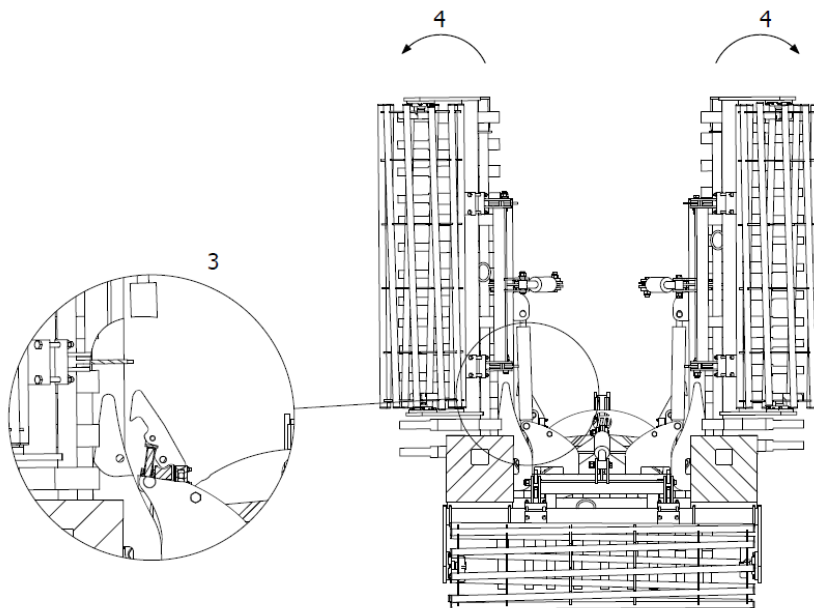

Fig. 6 Implement opening sequence: 3- release the hook of the hydraulic side extension lock mechanism, 4- open the implement side extensions.
3. Then, after making sure that the hook of the hydraulic side extension lock mechanism allows the machine side extensions to be unlocked, proceed to open them fully (Fig. 6).